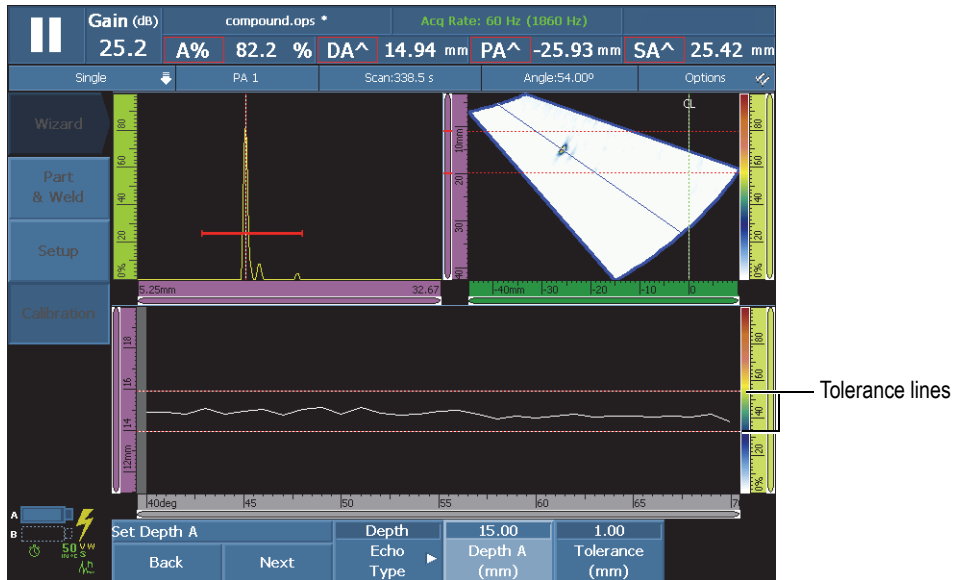

Figure 5-9 Building the envelope for the wedge-delay calibration
- a) Move the probe forward and backward over the calibration reflector to build an envelope (see Figure 5-9 on page 125).